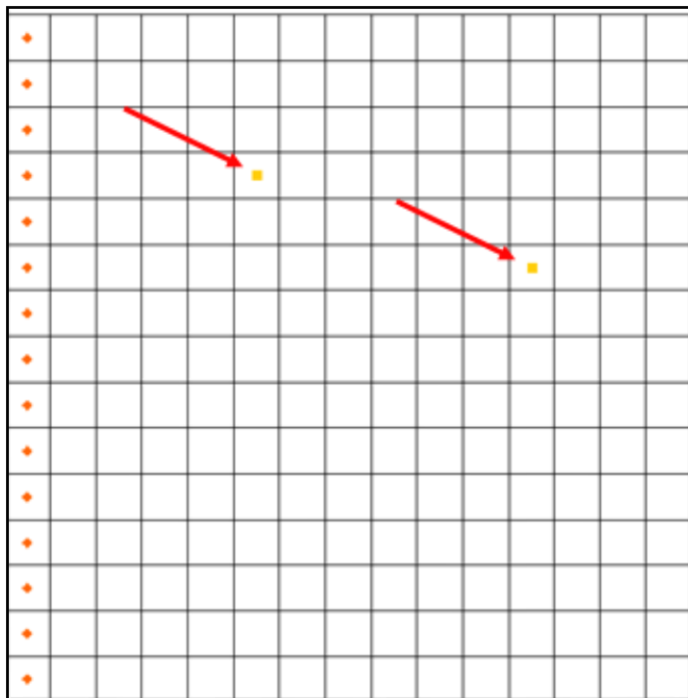

Figure 8 Well locations
2. Using the **Select Cells**  tool while holding down the *Ctrl* key, select the cells shown in Figure 8 (the two cells containing yellow squares, indicated by red arrows). The coordinates of each well are shown in the table to the right.